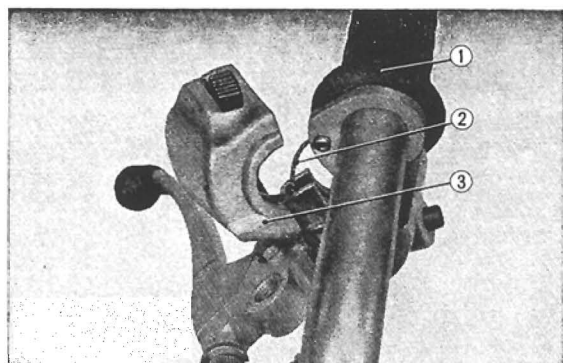

Fig. 4.5 Removing the throttle cable
- ① Throttle grip
- ② Throttle cable
- ③ Starter switch assembly
3. To remove throttle cable from the handle lever, unscrew the setting screw on the starter switch assembly and separate the two halves of the starter switch. The starter cable will be exposed and can be removed from throttle grip pipe. (Fig. 4.5)